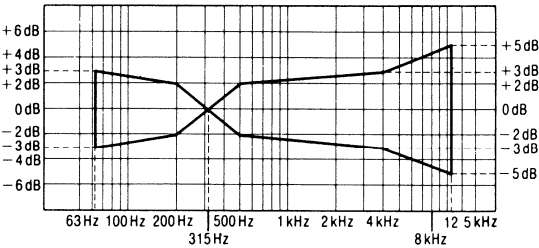

Fig. 5
- 2. Assure that the frequency response is within the range shown in Fig. 5 for both L-CH and R-CH.